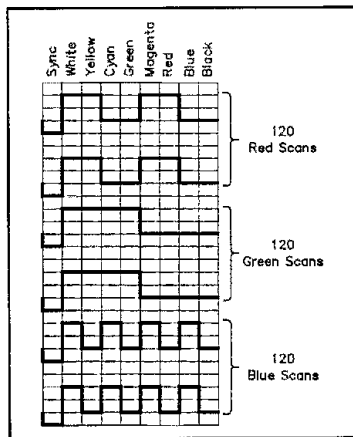

Fig 3—Waveforms of the frame-sequential color transmission employed in Fig 2, here using a color-bar test pattern.
*tial* color SSTV. Fig 3 illustrates the signals sent for a color-bar test pattern.